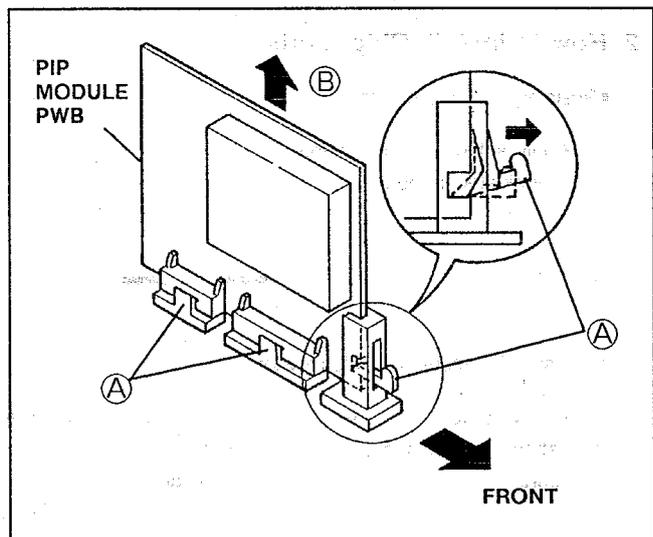

Fig.2
1. While widening the three claws marked ⑥ as shown in Fig. 2.
2. Raise the PIP MODULE PWB in the arrow direction marked ⑦ as shown in Fig. 2.